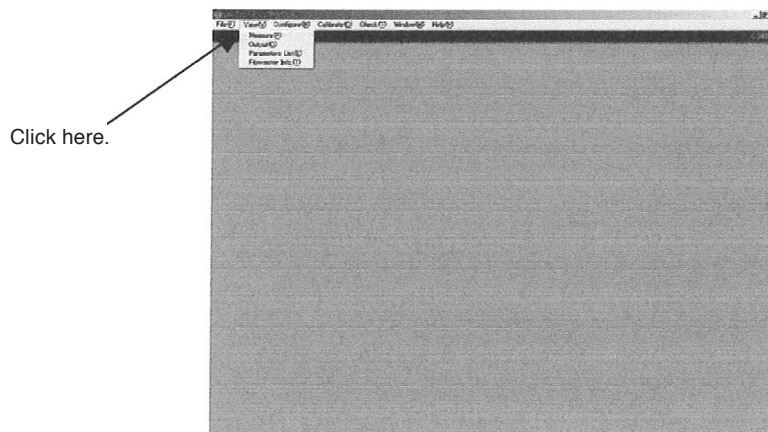

Fig.15
- Click on "View (V)" at top-level menu of the screen as shown in Fig. 15, select "Measure (P)" and click on again.